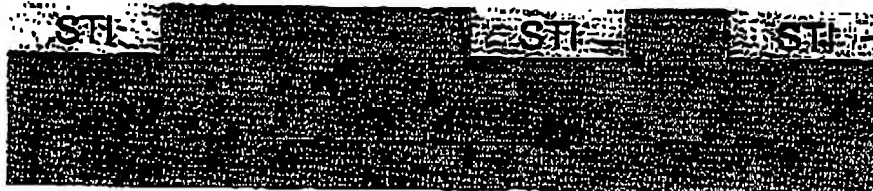

Figure 1a.
3) Exhibit A describes and illustrates the non-self aligned transistor and fabrication method of the present invention. Specifically, Figs. 1a-1j of Exhibit A illustrate the prior art (also illustrated in Figs. 1A-1J in the present specification). Figs. 2a-2i of Exhibit A
Insert text description of ETX process (S and SHP) for Figures 1a-1j.